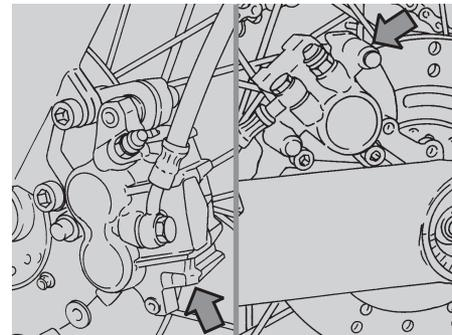

Fig. 49
CHECKING THE BRAKE PAD WEAR (Fig. 49)
- ◆ Check the distance between the electrodes (Fig. 49) with a thickness gauge. The distance must be $0,6 \div 0,7$ mm; if necessary adjust it, carefully bending the earth electrode.